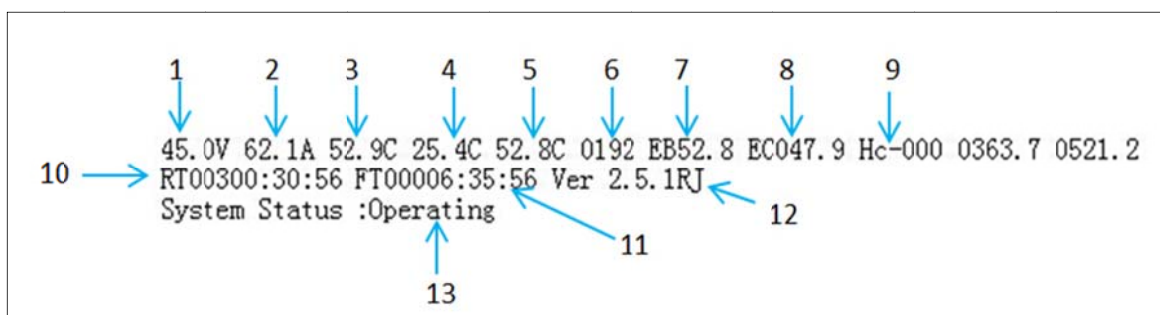

Figure 3-15, Data instructions
- Figure 3-15 please find the data instructions.